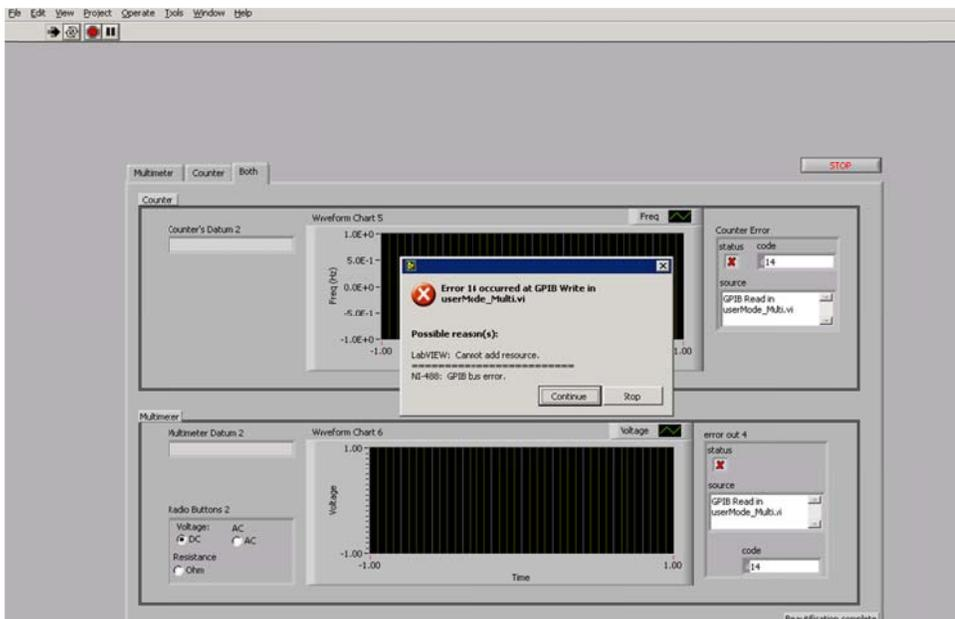

Figure 7. Error Message
- b. If steps were not followed properly, then user will receive an error message as shown in Figure 7
4. To terminate the program, press the **STOP** button, shown in Figure 7 on the top right